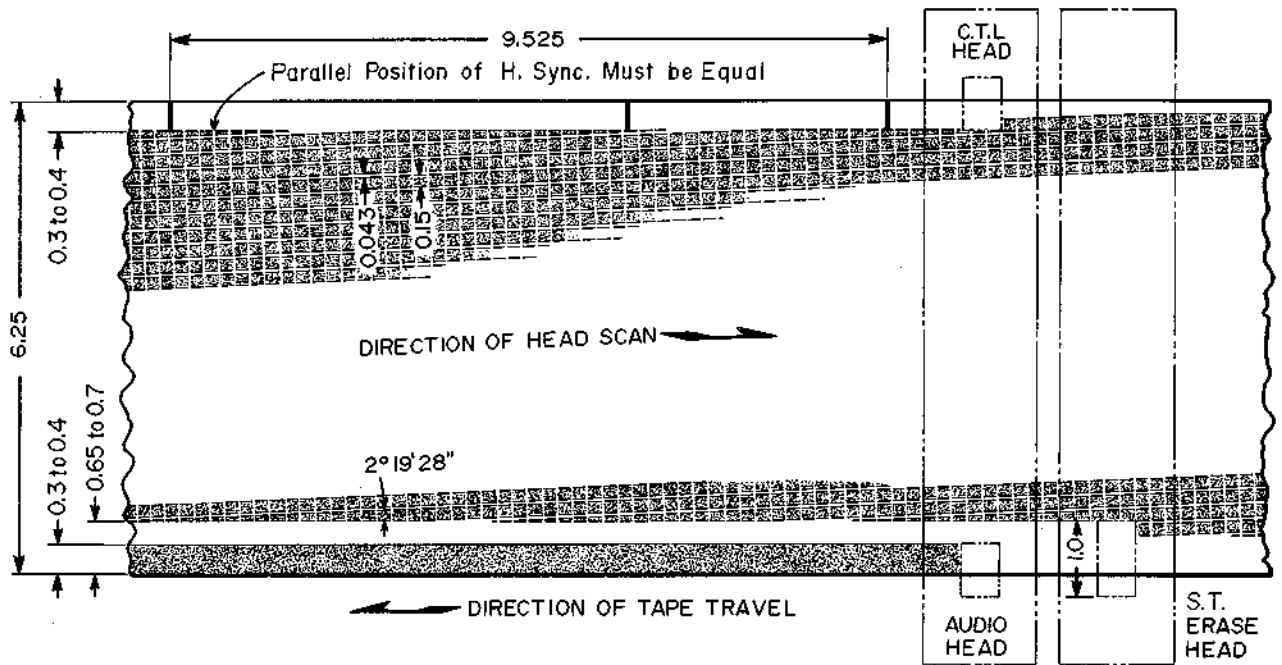

Fig. 15 Recorded Pattern of Video Tape (Viewed From Center of Head Drum)
- (i) For proper Head Height (Side Track Erase Head, as well as CTL and Audio Head), adjust to position as shown in Fig. 15.)